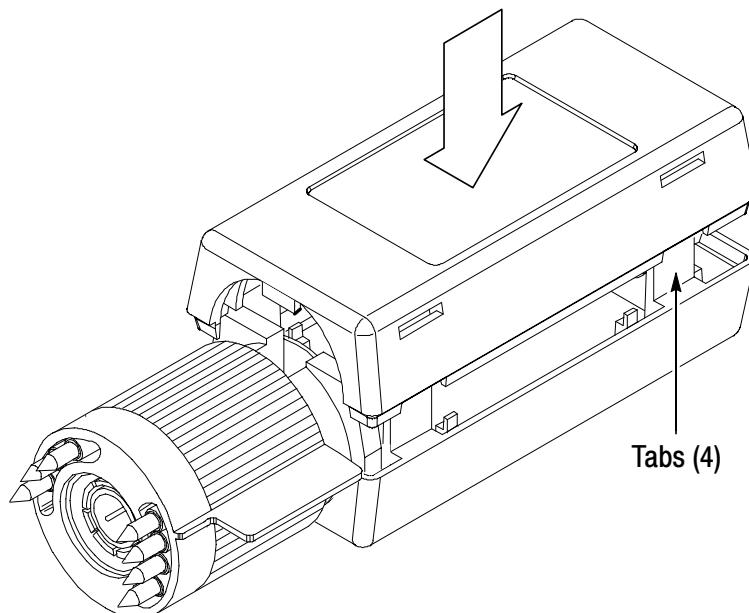

Figure 23: Replacing the compensation box cover
1. Align the tabs with the notches on the cover halves. Refer to Figure 23.